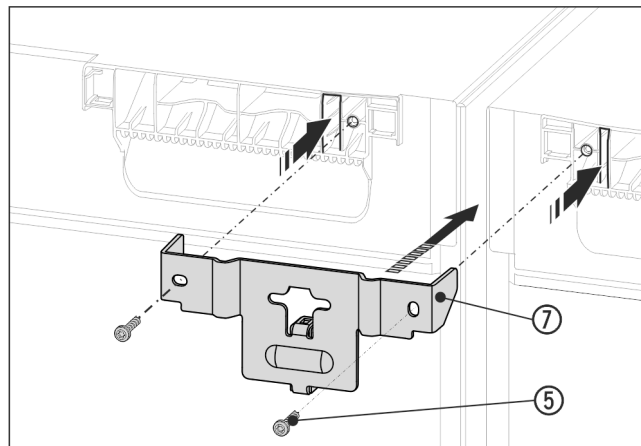

Fig. 16 Example illustration
- Slide the bracket Fig. 16 (7) onto the appliance ceiling with the lugs and with the spacer between the appliances. Screw in firmly with 2 screws Fig. 16 (5).